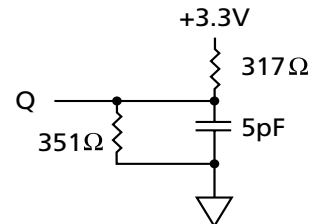

Figure 2
- The load used for V_{OH}, V_{OL} testing is shown in Figure 2. AC load current is higher than the stated DC values. AC I/O curves are available upon request.
3. This parameter is measured with output loading shown in Figure 2.